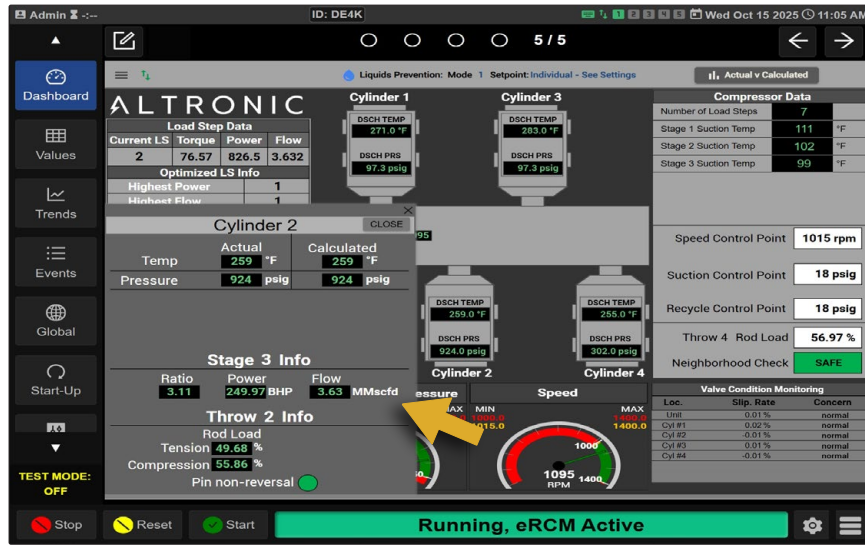

Figure 41
- Select a cylinder image to open the Advanced Monitoring pop-up window to view additional details, including stage and throw data. See Figure 41.